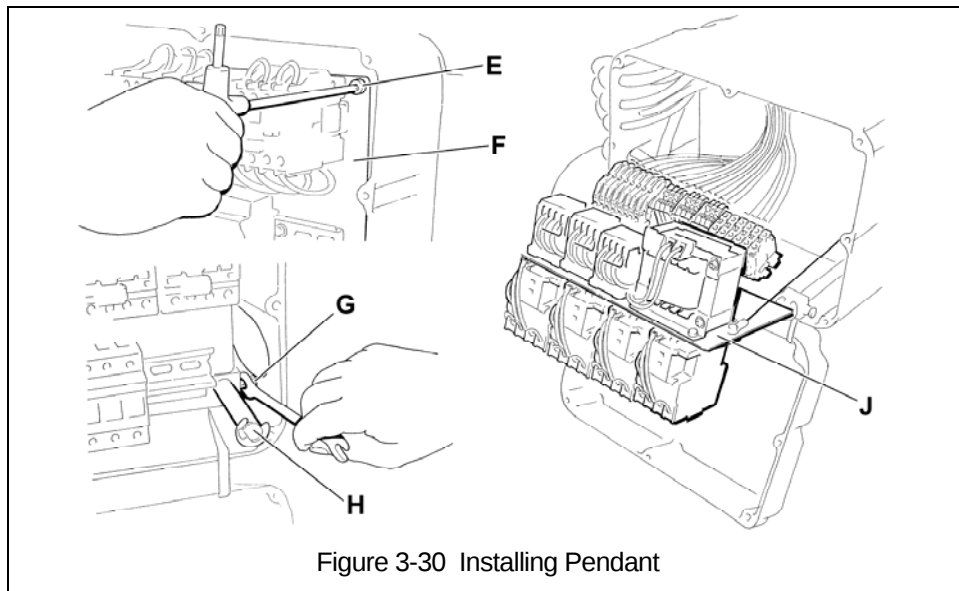

Figure 3-30 Installing Pendant
- 1) Refer to Figure 3-30, the wiring diagram and the interconnection diagram provided with the Hoist.
- 2) Remove Control Cover (A) or open the metal electrical enclosure.
- 3) Access to Terminal Strip: For hoists with metal electrical enclosure the terminal strips are accessible upon opening the enclosure lid. For hoists with the integral electrical enclosures (plastic cover), the Terminal Strips are located on the back side of the Panel (F). Gain access by removing the Socket Bolts (E) securing the Panel (F), loosening the Set Bolts (G) on the Support Bars (H), then slide and rotate the Panel (F) forward.
- 4) Loosen the Cable Fitting (C) located on the left side of the electrical enclosure and insert the pendant cord. Pull through enough cord to reach the terminals then securely tighten the Cable Fitting (C).
- 7) Reattach the Control Panel (F) and replace the Control Cover (A) or close the metal electrical enclosure. Be careful to not damage the seal or sealing surfaces and make sure to securely tighten all fasteners or latches.